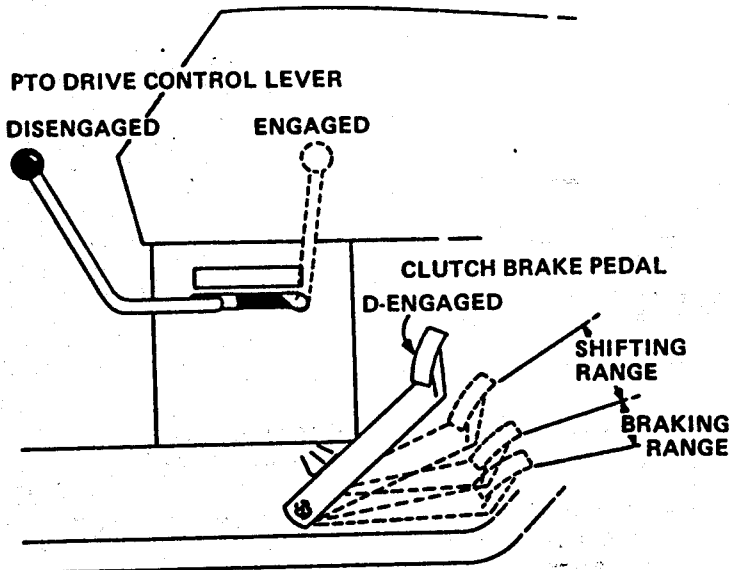

Figure 10
2. Release brake lock by depressing the clutch-brake pedal, Figure 10, until the lock disengages.
3. Depress clutch-brake pedal approximately halfway (into the shifting range) as shown in Figure 10. Place gear shift lever into the desired gear and slowly release the pedal to provide smooth acceleration.
6. To stop the tractor, depress foot pedal to the braking range, then return it to the shifting range and place gear shift lever in neutral. Fully depress pedal and engage the brake lock when parking or leaving the tractor. (Figure 10)